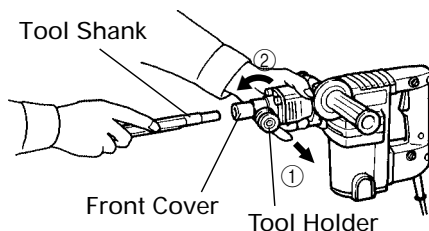

Fig. 2
- (1) Clean, then smear the tool shank with the grease (optional accessory).
- (2) Pull the tool holder in the direction of arrow ① and rotate it in the direction of arrow ② (counterclockwise). Fully insert the tool shank into the hexagonal hole of the front cover. (Fig. 2)
- (3) Return the tool holder to fix the tool.